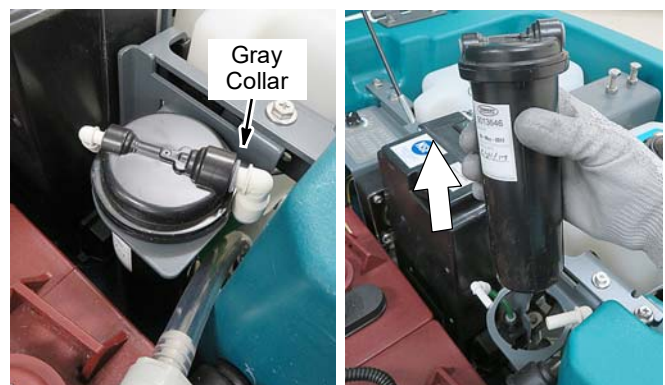

FIG. 143
- Disconnect the two hose connectors from the top of the cartridge by pressing the gray collars inward and pulling the connectors outward (Figure 143). Lift cartridge to remove.